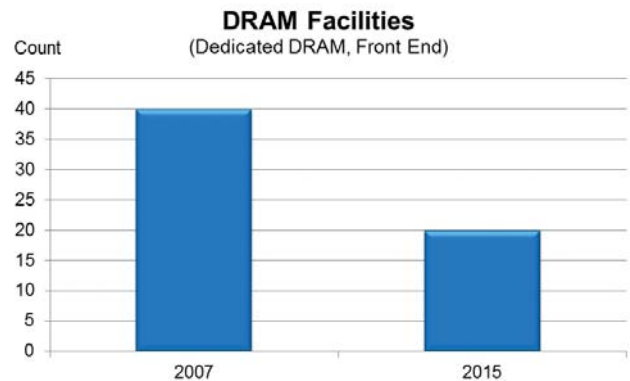

FIGURE 1. Major DRAM companies (including Inotera) operating chip facilities (Source: SEMI, 2015).
Since that time, the number of companies shrank from 11 players to six, with only 20 facilities in production and three major players (Samsung, Micron and SK Hynix) as the industry consolidated and contracted (**FIGURE 1**). Qimonda, Promos and Powerchip left the scene, while Elpida and Rexchip were acquired by Micron. In addition, some front end fabs were converted from DRAM to Logic, Flash or other purposes.
FIGURE 1. Shown is an optical micrograph of the graphene after transfer on to a SiO₂/Si wafer and cleans indicating areas with graphene (A), areas with no graphene ((B) and suspected tape residue (C). Figure 1b shows metal contamination levels determined from TXRF spectra for as-transfer and after wet cleans. Figure 1c and d show Raman spectra obtained from graphene on SiO₂ wafer before and after wet-cleans respectively showing no degradation in single-layer graphene quality.